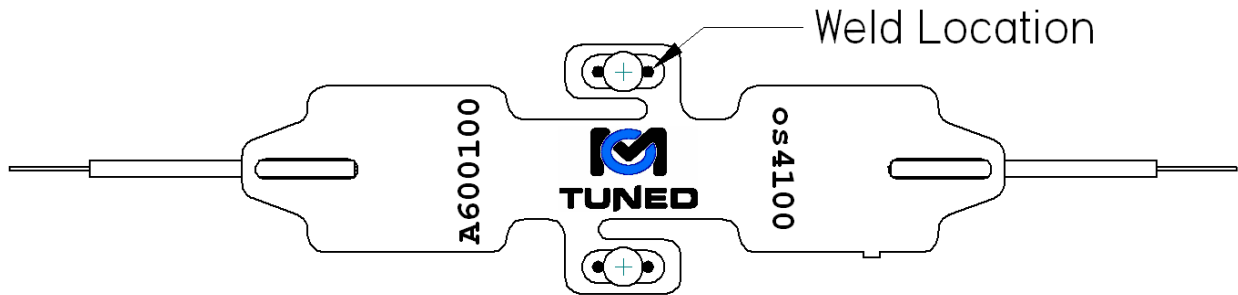

Figure 3 – Weld Location
- 2.3. Weld the sensor in place at the 4 positions shown in Fig. 3.